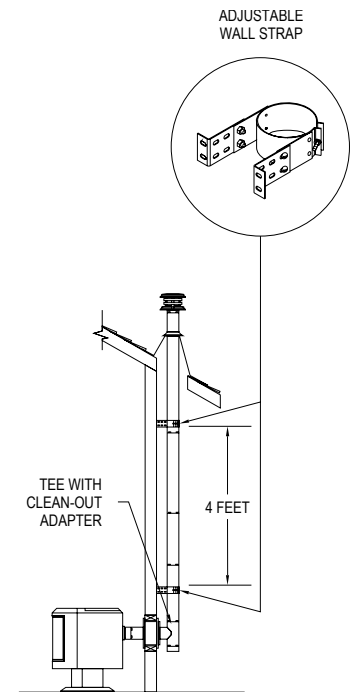

Figure 4
4. If the flue exit is on the back of stove, and an exterior vertical installation is desired (Figure 4):